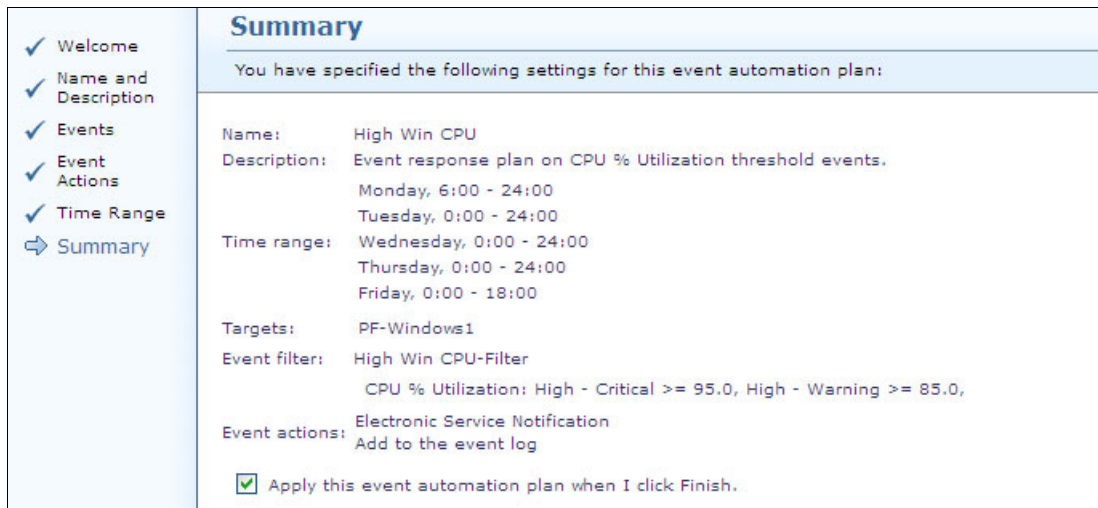

Figure 7-53 Create Event Automation Plan Wizard Summary window
13. Review the Summary window (Figure 7-53) and click **Finish**.